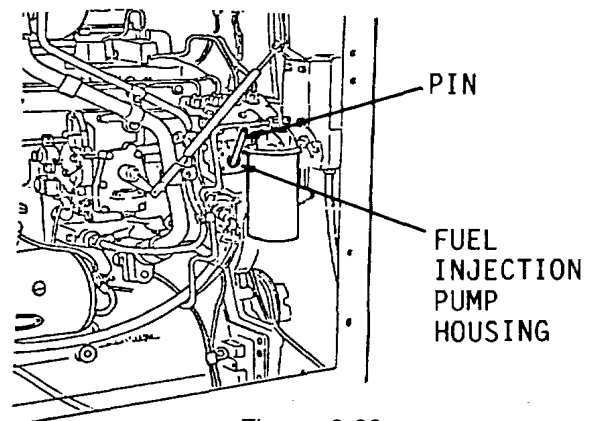
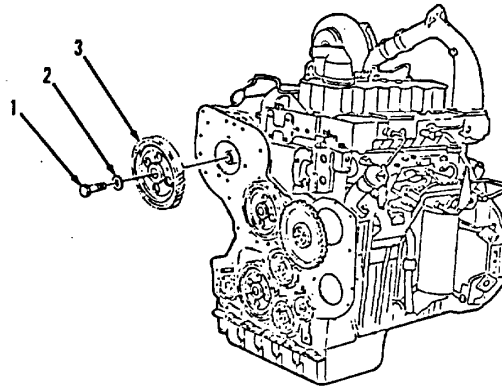

Figure 3-33.
Figure 3-20.
23. Install pin in fuel injection pump housing (Figure 3-33).
26. Position gear (3, Figure 3-20) on fuel injection pump camshaft.
27. With the flat side of the washer away from the gear, install washer (2) and bolt (1). Bolt (1) should be finger tightened.
28. Install adapter on gear (3).
29. Using two torque wrenches, put a clockwise force of 50 ft-lb on adapter to remove gear backlash, while bolt (1) is tightened to 199 ± 18 ft-lb torque.
30. Remove pin from fuel injection pump housing (Figure 3-33).